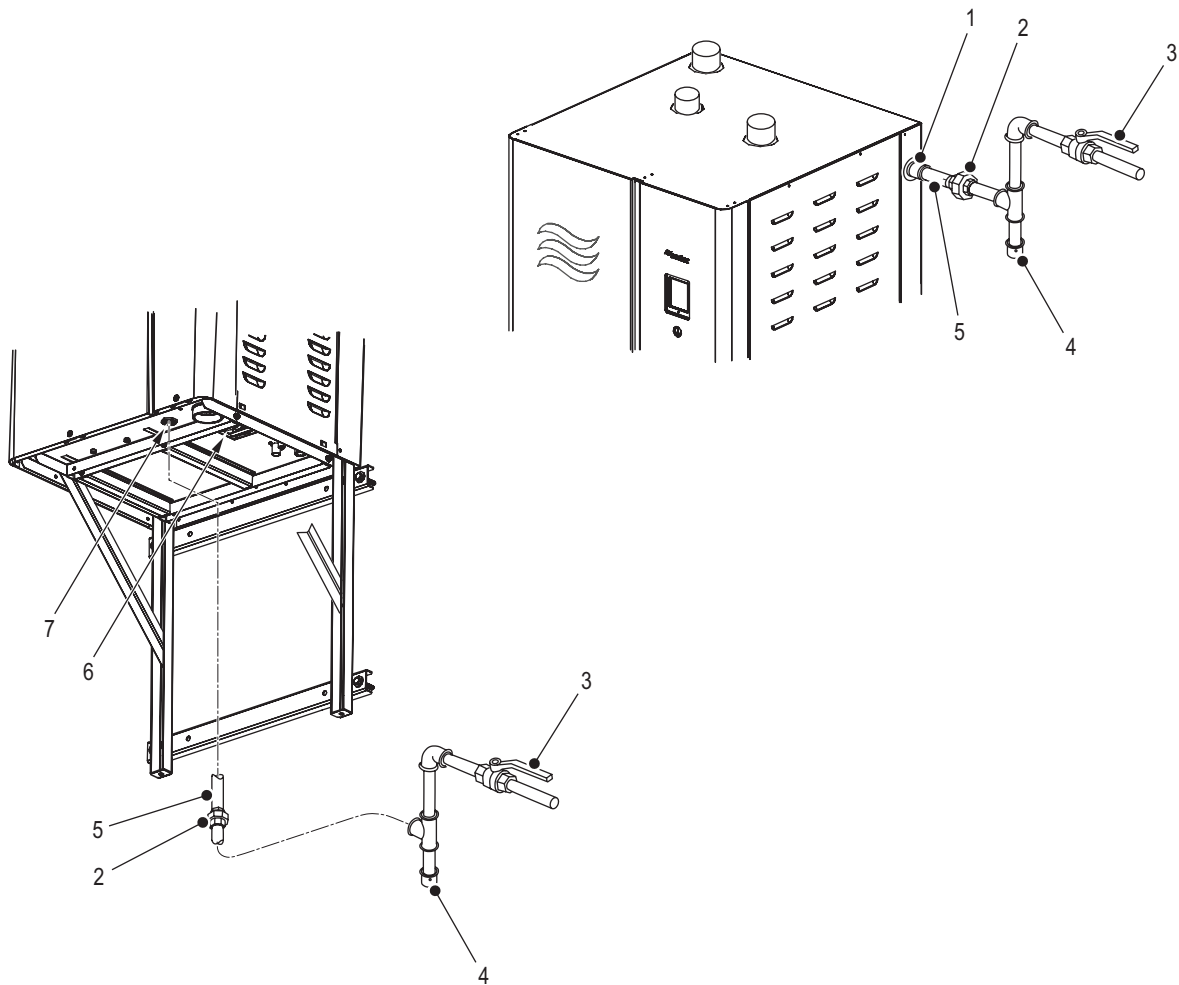

Figure 23: Gas Connection
- A certified manual gas shutoff valve must be installed immediately upstream from the humidifier. Refer to Figure 23.